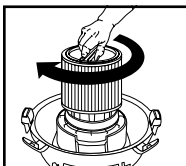

FIGURE 16
23. Hold the tank cover with one hand, turn the handle on the filter retainer clockwise to tighten, locking the filter into place. **FIGURE 16.**